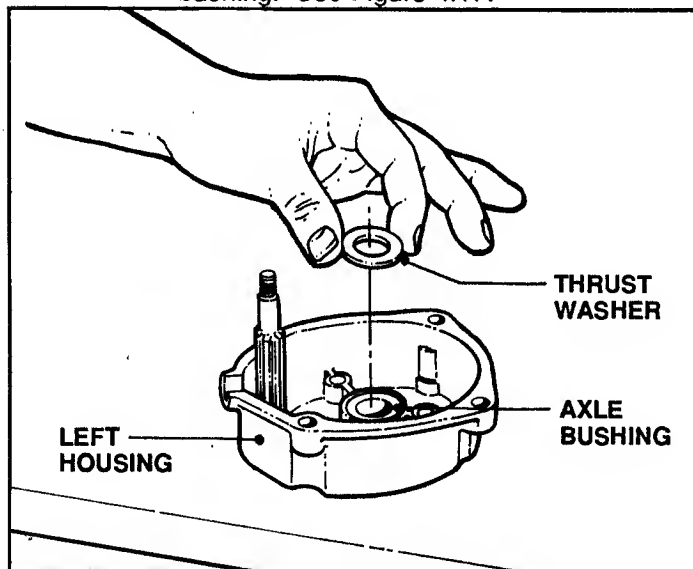

FIGURE 4.17
4. Install one of two thrust washers on bushing. See Figure 4.17.